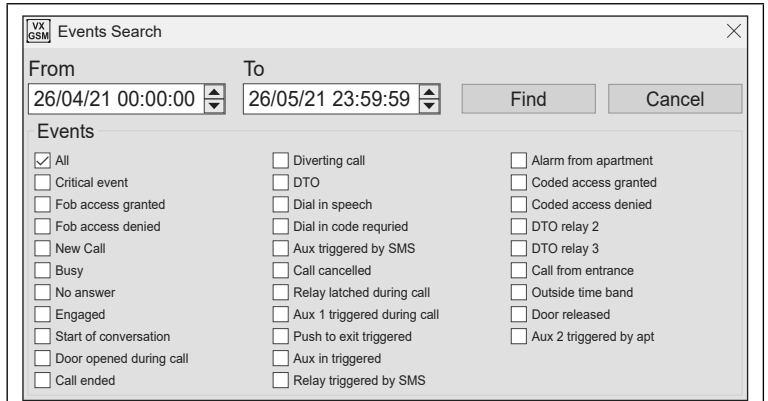

Fig. 75
- After a brief delay the event search window will appear, **Fig.75**.